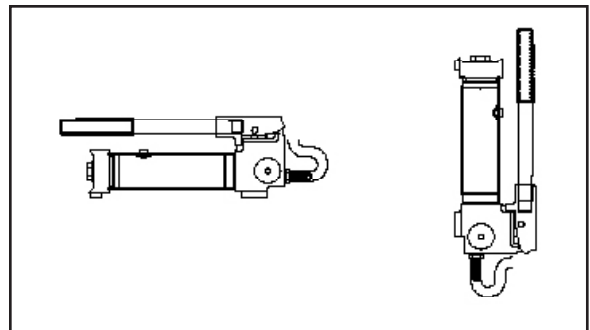

Figure 3 - Horizontal and Vertical Position
3. Pump may be used in horizontal and vertical position as illustrated on Figure 3.